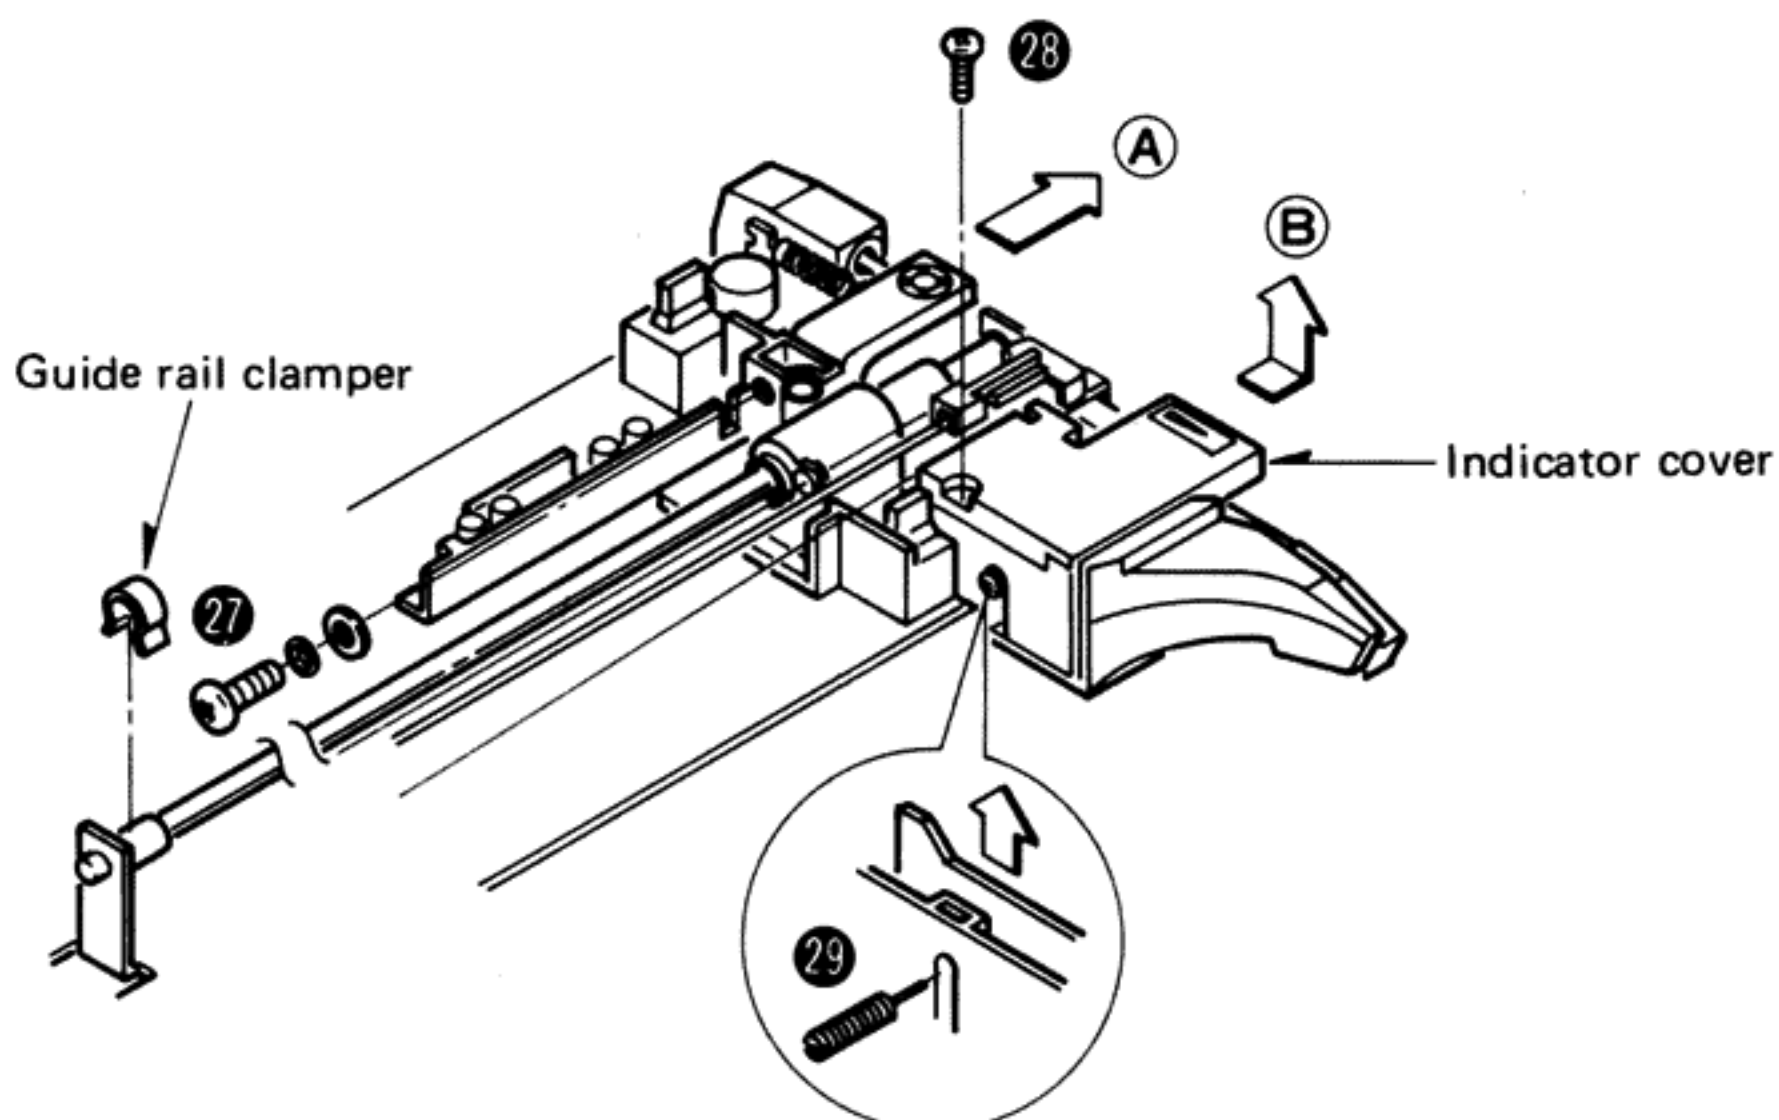

Fig. 14
5. Remove the tonearm setscrew. (Fig. 14 : 27)
2. Remove the indicator cover setscrew (Fig. 14: 28) and the indicator cover in the direction of the arrow B . (Fig. 14)
3. Remove the offset angle detection circuit board adjustment screw (Fig. 14: 29), then the offset angle detection circuit board can be removed.